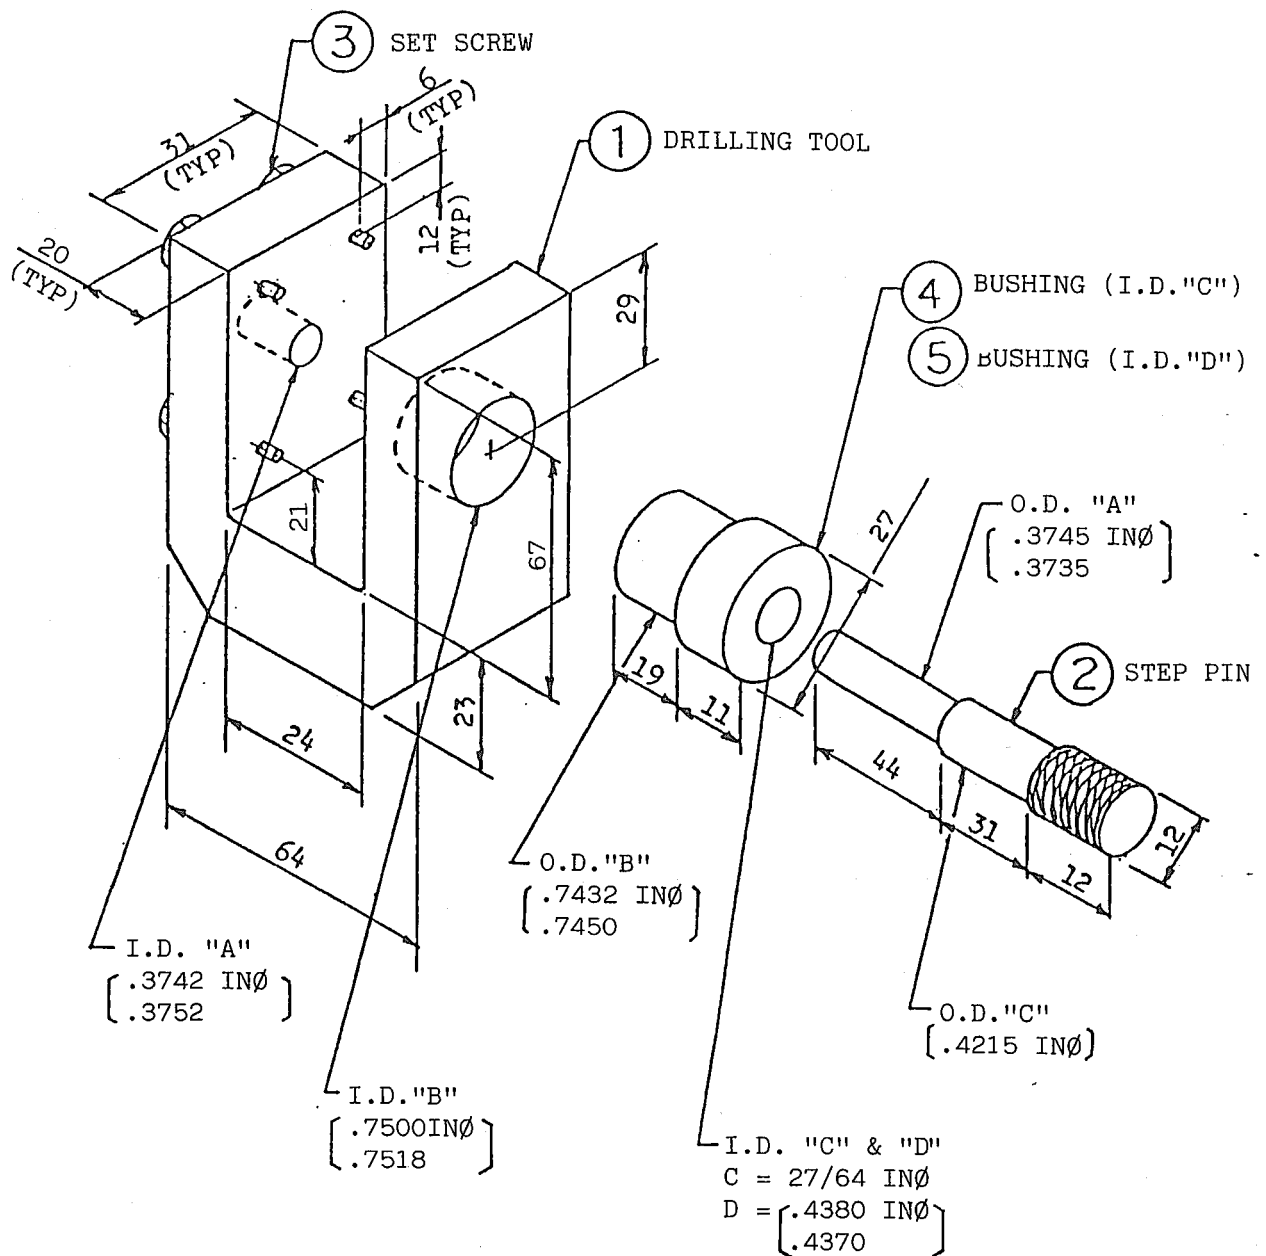

FIGURE 1. DRILLING TOOL (200-018T)
- (4) Install 27/64 in drilling bushing (item 4, Figure 1) into drilling tool (1). Install drilling tool (1) on wing fuselage joint fitting (fuselage side) by tightening set screws (3). Insert step pin (2) into drilling tool (1) to check for alignment.
- (5) Assure drilling tool (1) is properly positioned and installed.